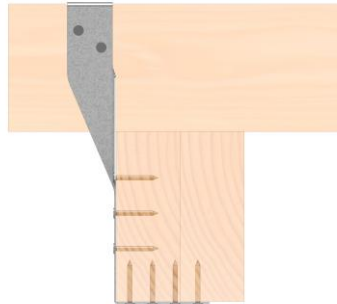

Figure 2
INCREASED CAPACITIES FOR STRAPS THAT ARE WRAPPED AROUND; MINIMUM 4 NAILS PER LEG (2) (Fig 2 or Fig 3)